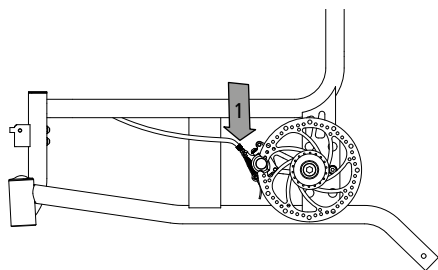

Fig. 31
1. In order to achieve an even braking effect, the braking force is adjusted on the respective adjusting screw (left brake cylinder / right brake cylinder) (1, Fig. 31).